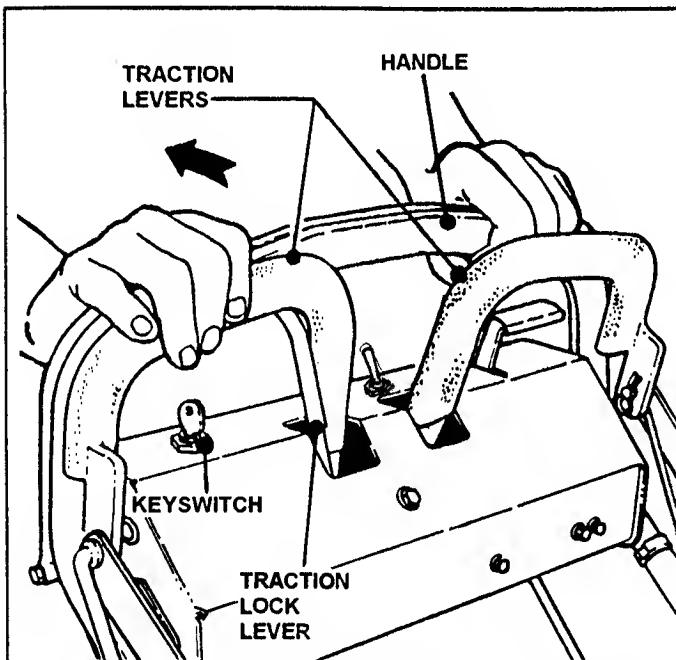

FIGURE 2
1. Squeeze both Traction Levers firmly against the Handle to stop forward or reverse motion. Using your right hand thumb, push the Traction Lock Lever full forward into Park Brake position. See Figure 2.
2. Pull Blade Clutch Switch backward (toward handle) to the OFF position. See Figure 2.
4. **STOP ENGINE** by turning Key switch to OFF. See Figure 2.
1. Pull both **TRACTION LEVERS** toward the Handle to stop forward or reverse motion, while pushing the Traction Lock Lever full forward until it locks both Traction Levers in Park Brake position. See Figure 2
2. Pull the Blade Clutch Switch backward to the OFF position. See Figure 2.
- 2a. Pull both Traction Levers toward the Handle while pushing Traction Lock Levers forward until it locks the Traction Lock Lever in Park Brake Position. Refer to Figure 2.